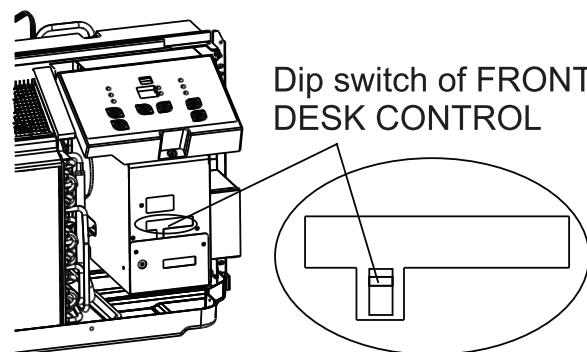

Fig. 5.6
- The DIP switch can control the **FRONT DESK CONTROL** feature. If the DIP switch is in the **DOWN** position, the unit will be turned off, otherwise, the unit will run under normal control. Refer to **Fig. 5.6** below.